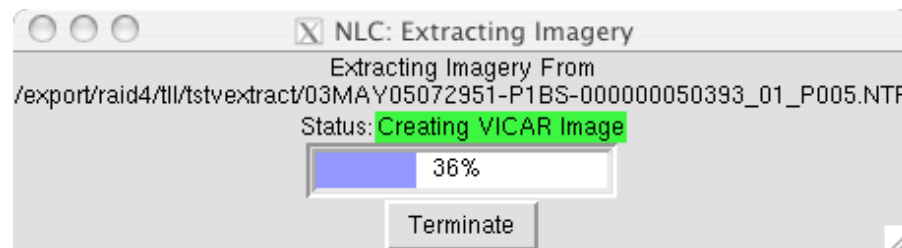

Figure 5-2: Progress Bar for Converting the Parent Image to VICAR format.
- Click the "**Accept**" button to begin the Step 1 processing. A progress box will appear while the parent input image is logged and converted to VICAR format (Figure 5-2).